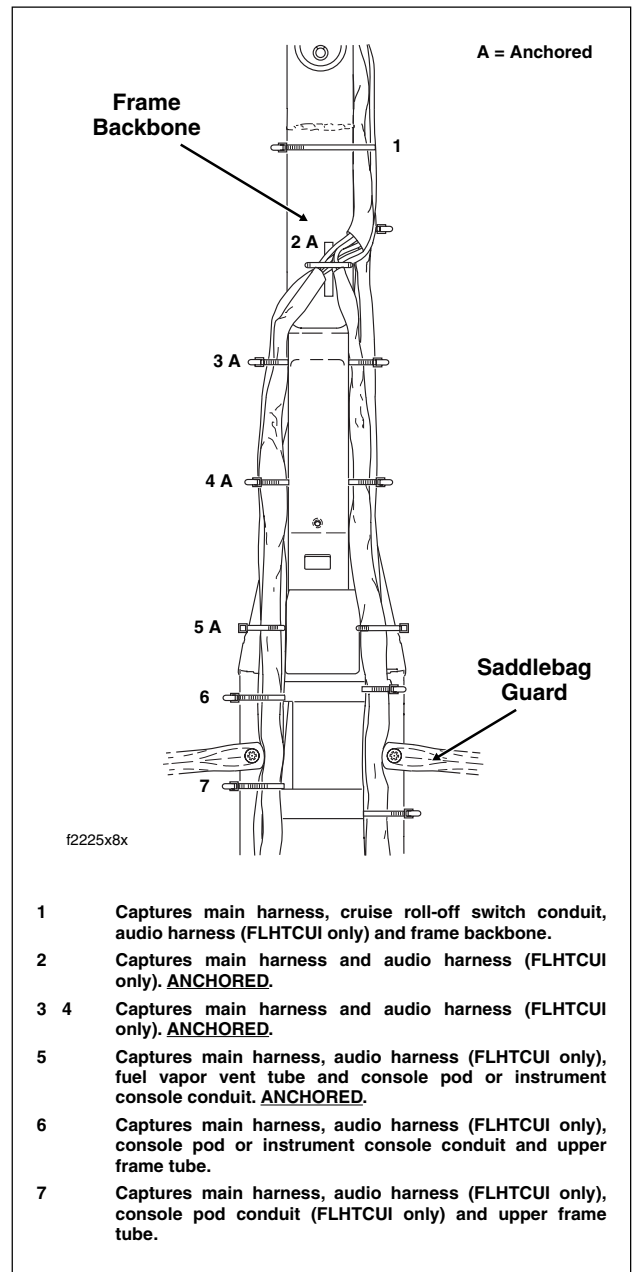

Figure 8-169. Install Cable Straps
7. Carefully cut cable straps securing main harness to frame backbone, left frame tube and luggage rack rail. See Figure 8-169.
10. Install remaining cables straps as shown in Figure 8-169.
8. Install remaining cables straps as shown in Figure 8-169.